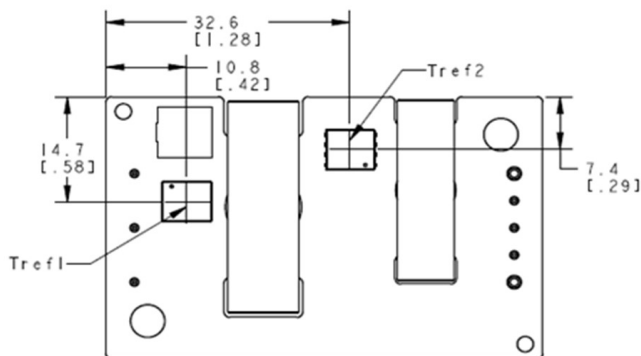

Figure 13. T_{ref} Temperature Measurement Location for open frame version.
To provide protection under certain fault conditions, the unit is equipped with a thermal shutdown circuit. The unit will shutdown if the thermal reference point T_{ref} (Figure 13), exceeds 135°C (typical), but the thermal shutdown is not intended as a guarantee that the unit will survive temperatures beyond its rating. The module will automatically restart upon cool-down to a safe temperature.
The thermal reference points, T_{ref1} , and T_{ref2} used in the specifications for open frame modules are shown in Figure 13. For reliable operation these temperatures should not exceed 124°C & 124°C respectively.